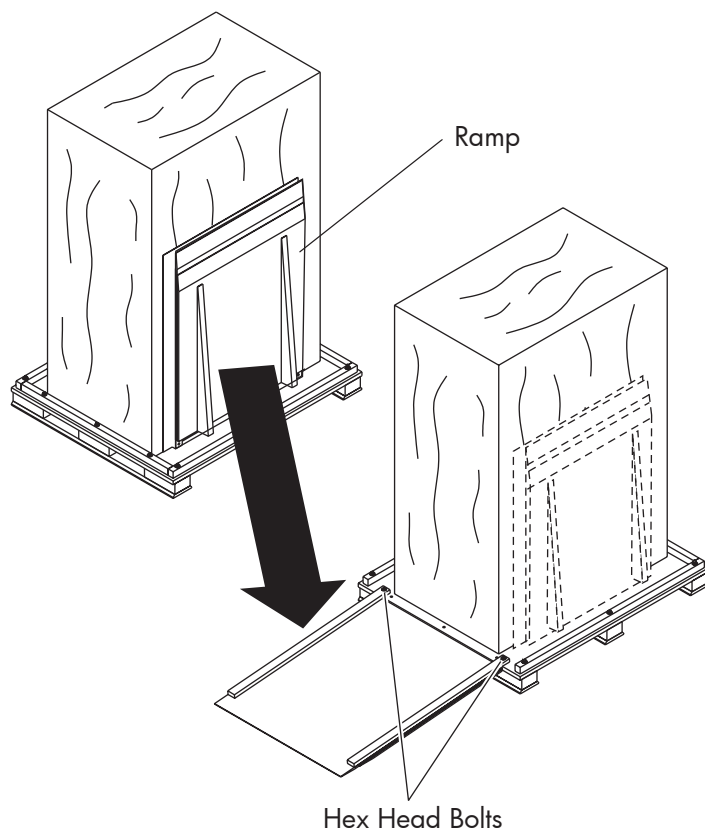

Figure 9: Attaching the pallet ramp
9. Use two of the 3-3/8-inch hex head bolts, lock washers, and flat washers removed in step 7 to secure the ramp to the pallet (see Figure 9).